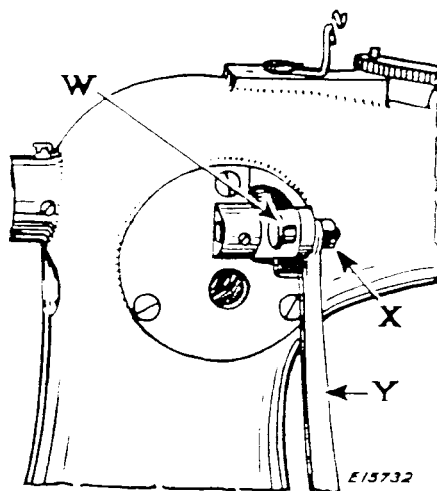

Fig. 16. Adjusting Feed Rolls - Machine 7-56
To adjust, loosen nut (X, Fig. 16) and move the upper end of the feed roll connection (Y, Fig. 16) outward (away from the machine) in the slot (W) for more feeding movement of the feed rolls; or move the connection (Y) inward (toward the machine) for less feeding movement of the feed rolls, then securely tighten the nut (X).